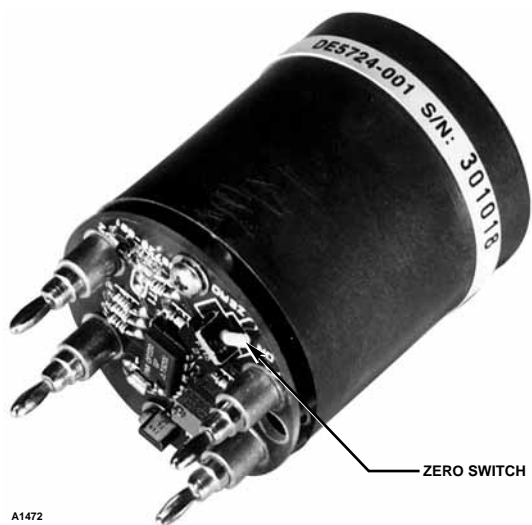

Figure 21—Electrochemical O2 Sensor Cell
3. Move the toggle switch on the electrochemical sensor cell to the "zero" position. See Figure 21 for switch location. This will simulate the "zero" or "no-oxygen" condition necessary to establish a baseline output calibration level. When the U9500 display reads "00", move the toggle switch back to the "on" position. Place the aluminum sensor cover over the cell and reinstall.